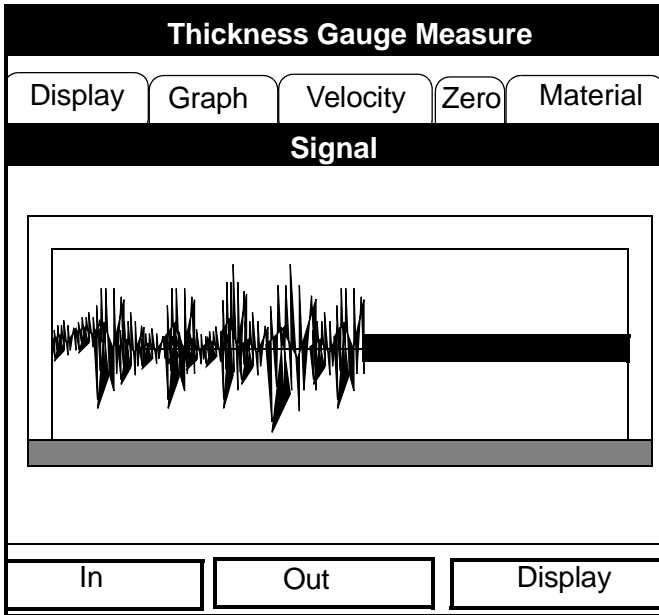

Figure 112: Graph Window in Zoom Format
Press [F2] (Cancel) or [F3] (OK) to return to Operate Mode, or press the [▶] arrow key to move to another window in the option. However, if you wish to adjust the graph, press the [▼] key. The screen now appears similar to Figure 112 on page 167.